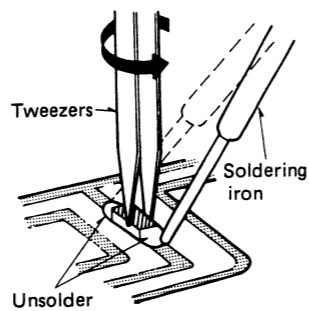

Fig. 1
2. Remove chip with tweezers by rotating it while removing solder as shown in Fig. 1.